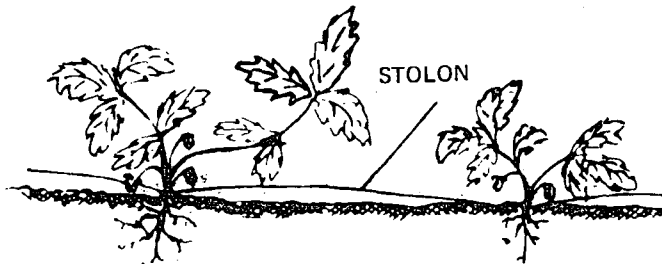

Fig. 1
*Stolons*, or lateral branches with buds, when separated from the main body and in the appropriate conditions, emit roots and leaves. e.g. strawberry (Fig. 1)